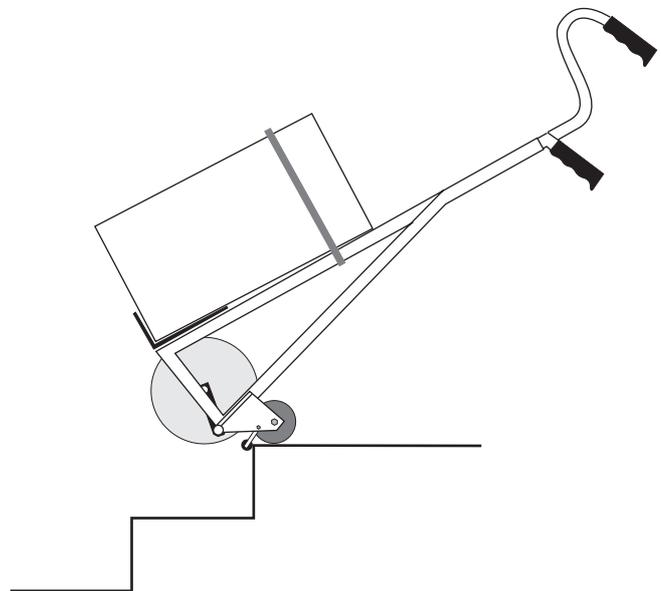

FIGURE 35
2. Push the **CargoMaster** all the way up to the edge of the step until the braking wheels just reach over said edge (see Figure 35); however, the safety brakes should not be activated.